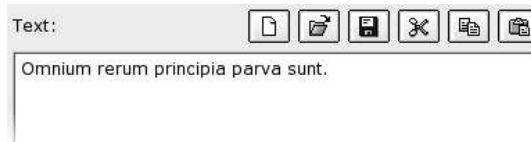

Figure 36: The text area where you can enter or load a text.
1. Enter the text you want to create in the large text box (Figure 36). You can also use the icons above the box to load texts, save texts you've already entered or to paste texts from the clipboard.